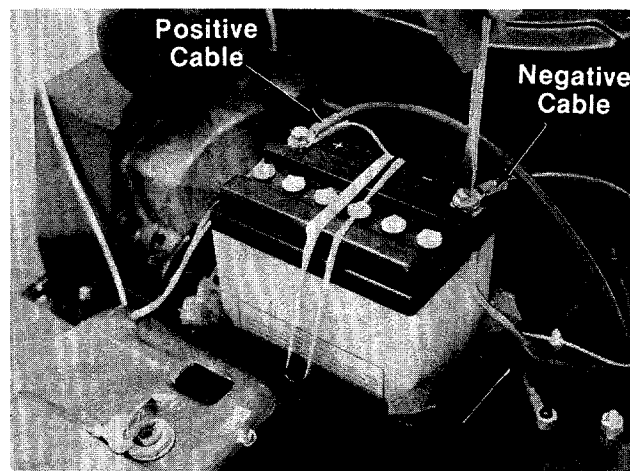

FIGURE 15.
11. Slide the square nut (provided with battery hardware) into the positive (+) terminal. Place the positive (heavy red wire) cable on the positive terminal. Secure with screw and lock washer provided. See figure 15.
12. Slide the square nut (provided with battery hardware) into the negative (-) terminal. Place the negative (heavy red wire) cable on the negative terminal. Secure with screw and lock washer provided. See figure 15.